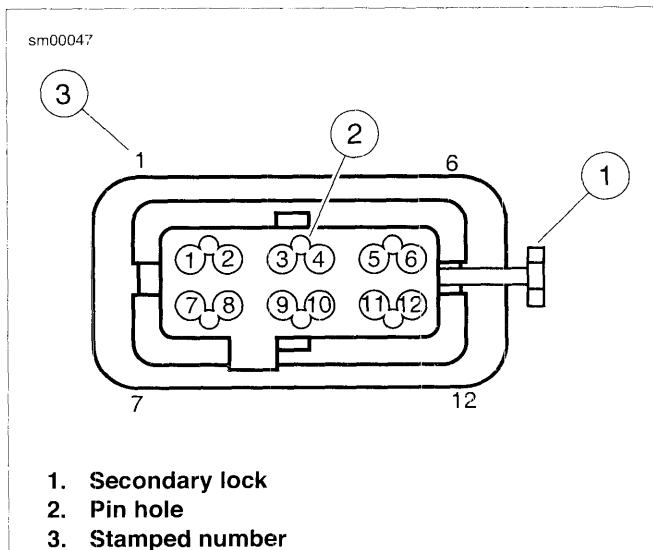

Figure A-47. Packard Micro 64 Connector: Housing
1. See Figure A-47. Locate the head of the secondary lock (1) on one side of the connector housing.
3. Locate pin hole (2) between terminals on mating end of connector.
See Figure A-47. For wire location purposes, the corners of the socket housing are stamped (3) with the numbers 1, 6, 7 and 12, representing terminals 1-6 on one side, and 7-12 on the other.